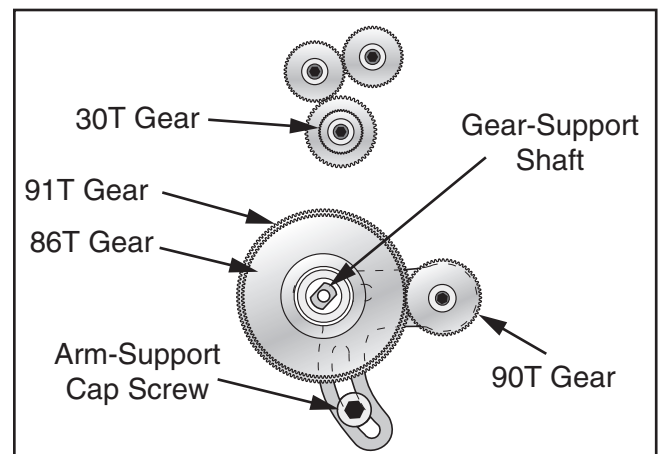

Figure 72. 30T gear installed.
9. Slide **91T** gear against lower **90T** gear (see **Figure 72**) until they mesh with 0.002" to 0.004" backlash, then tighten gear support shaft